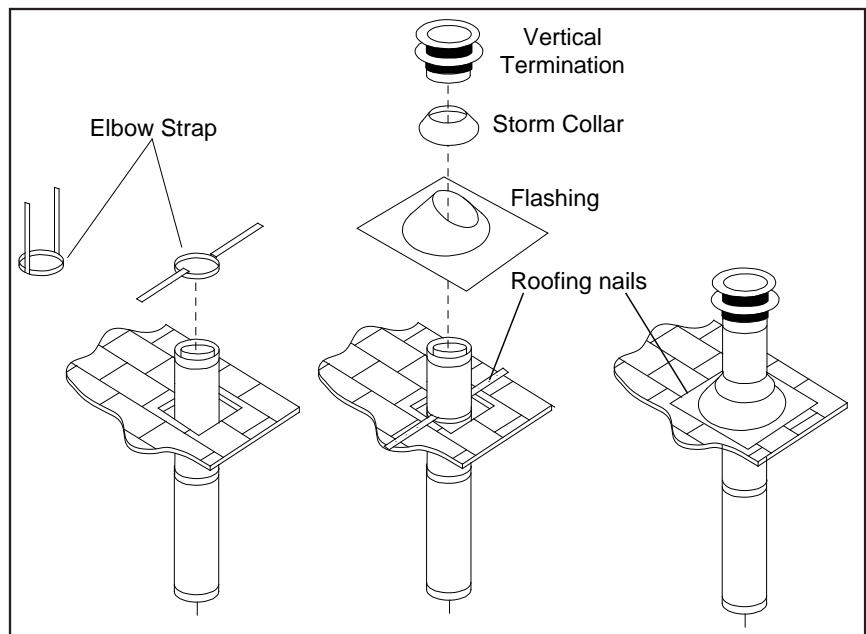

Figure 53: Vertical Vent Termination
- Step 3.** To install the Round Support Box/Wall Thimble in a flat ceiling, cut a **10 " (25.4 cm)** square hole in the ceiling, centered in the hole drilled in Step 2. Frame the hole as shown in Figure 53.
- Step 6.** Once the pipe sections have been joined, and run up through the hole in the roof, slip an elbow strap over the exposed sections, bend the support straps outwards, and push the elbow strap down to the roof level, as shown in Figure 53. Tighten the clamp around the pipe section. Use a level to make sure the pipe is truly vertical. With roofing nails, secure the support straps to the roof. Seal the nails holes heads with non-hardening mastic. Trim the excess length of the support straps that extend out beyond the edge of the flashing.
- Step 9.** Slip the storm collar over the pipe, and push it down to the top of the roof flashing as shown in Figure 53. Use the non-hardening sealant around the joint between the pipe and the storm collar.